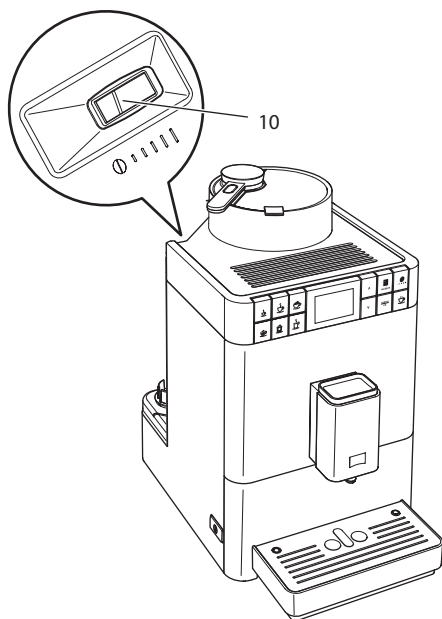

Fig. 18: Lever for setting the grinding fineness
- » The "Grinding fineness adjustment" lever (10) is visible on the housing.
2. Move the lever to the left or right, as shown on Fig. 18.